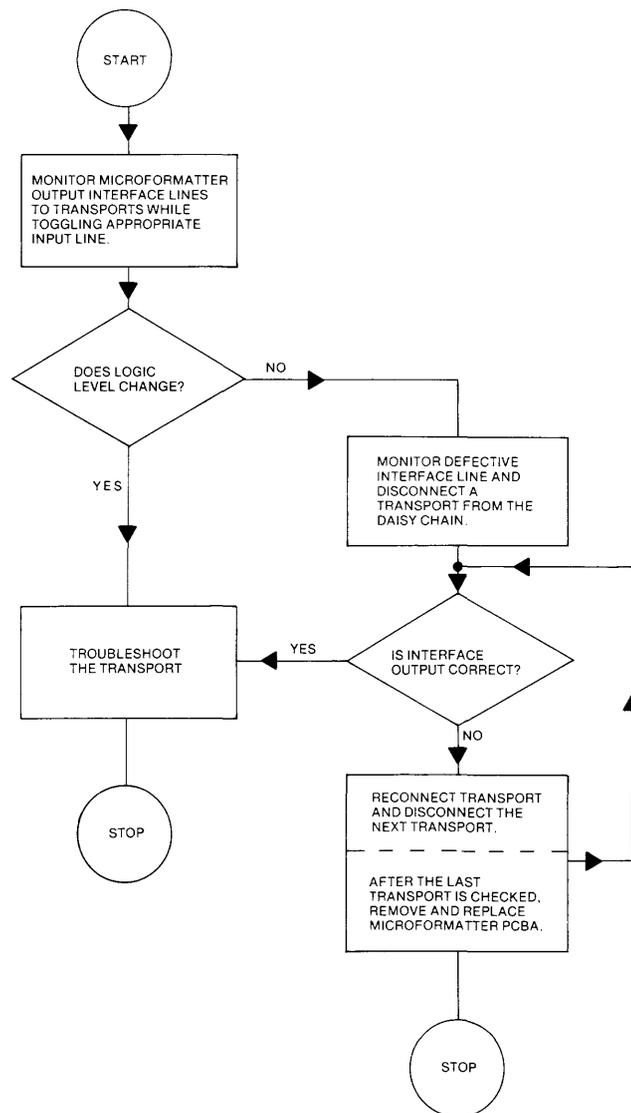

Figure 4-6. Fault Isolation Flow Chart
- (1) Check the interface commands between the microformatter and the transport(s) using an oscilloscope. Refer to the fault isolation flow chart given in Figure 4-6.
- (2) Using the previously generated test tapes, monitor (with an oscilloscope) the read interface lines between the microformatter and transport(s).
- (3) Remove the all ones or all zeros tape from the transport.